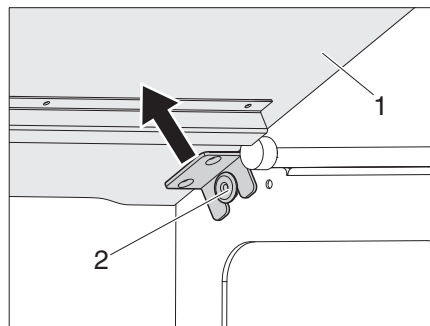

Fig. 25 Stud
- Press the bed extension (Fig. 25,1) on the left and right out of the studs (Fig. 25,2).